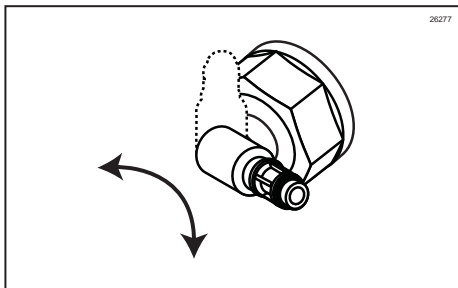

Figure 73
25. Turn the adapter valve toward the syrup line while holding the adapter base. Syrup lines may be installed in any position as long as the syrup tubes are not pinched. Repeat for each Syrup Bag Adapter. (See Figure 73.)